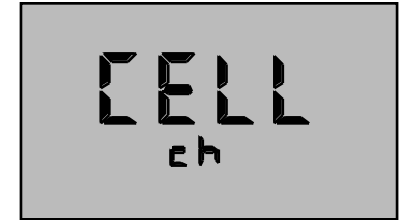

Figure 2
3. Press the **MR** key until "CELL ch" appears. Fig. 2.